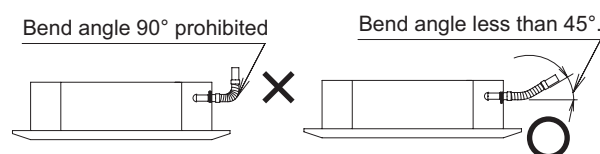

Fig. 2-49
- Do not bend the supplied drain hose 90° or more. Bend it less than 45°. (Fig. 2-49)